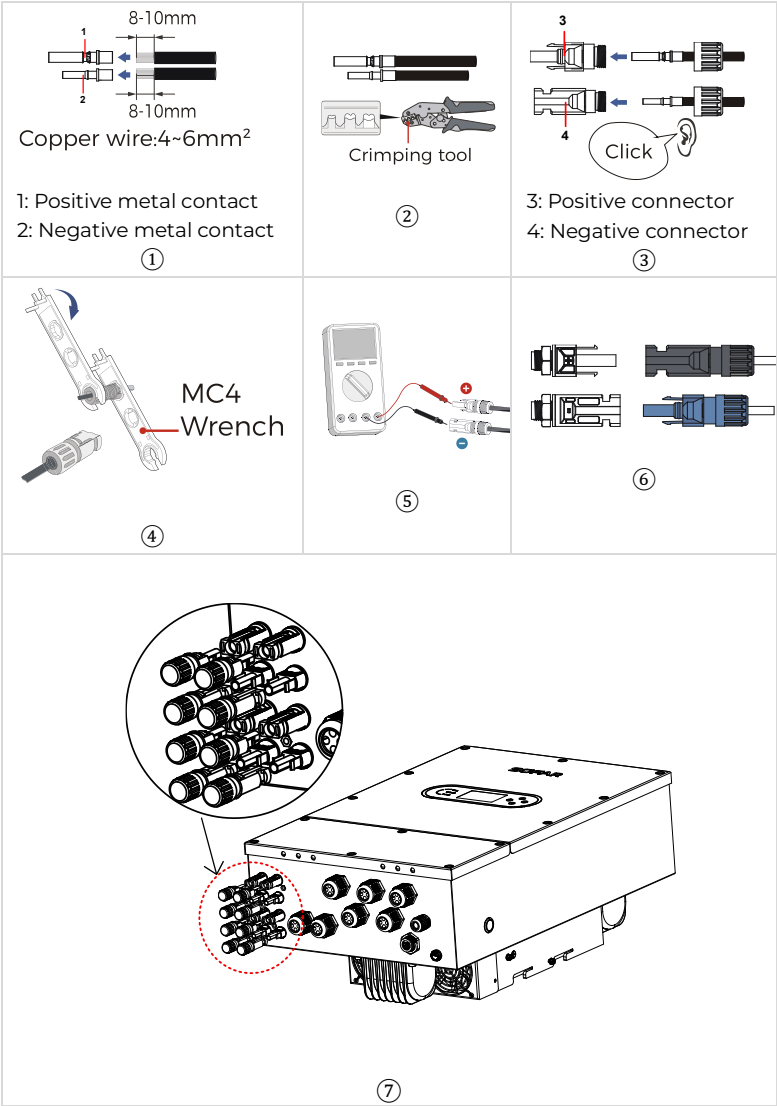

Figure 5-3 Connect PV
Step 2 Remove the insulation layer with an appropriate length from the positive and negative power cables by using a wire stripper as show in figure 5-3①.
Step 3 Insert the stripped positive and negative power cables into the positive and negative metal terminals respectively and crimp them using a crimping tool. Ensure that the cables are crimped until they cannot be pulled out by force less than 400 N, as shown in figure 5-3②.
Step 4 Insert crimped power cables into corresponding housings until you hear a "click" sound. The power cables snap into place, as shown in figure 5-3③.
Step 5 Reinstall cable glands on positive and negative connectors and rotate them against the insulation covers, as shown in figure 5-3④.
Step 6 Use the multi-meter, measure the PV port voltage Voc, and then make the connection with the inverter to prevent live operation, as shown in figure 5-3⑤
Step 7 Insert the positive and negative connectors into corresponding PV terminals of the inverter until you hear a "click" sound, as shown in figure 5-3⑥⑦.